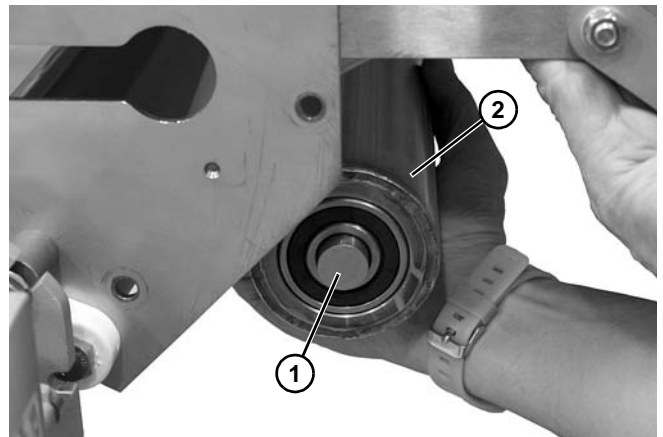

Figure 103
9. Slide shaft (**Figure 103, item 1**) into the tensioner pulley (**Figure 103, item 2**). Remove the tensioner pulley.